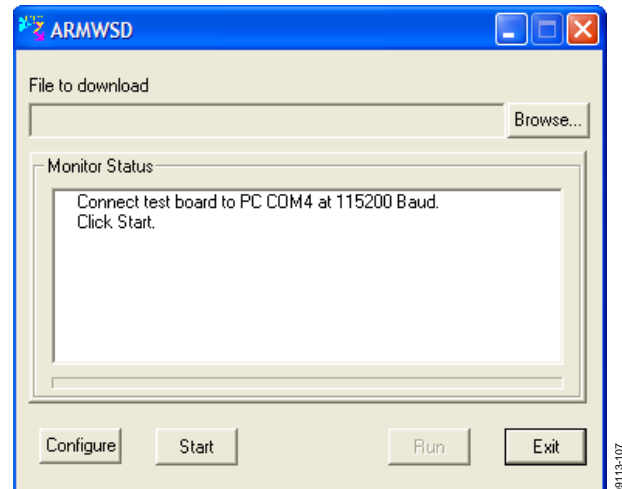
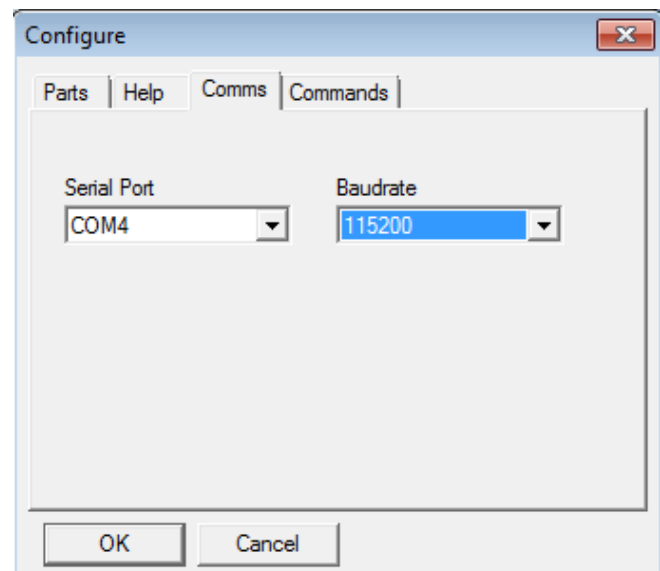

Figure 7. ISEB ARMWSD Firmware Downloader
Figure 8. Selecting the Correct COM Port for the Downloader
2. Run the **ARMWSD.exe** program (it can be downloaded from the ftp://ftp.analog.com/pub/iMEMS_Sensor_Eval/ in the folder of EVAL-ADXL346-M); it displays information about the downloader, as shown in Figure 7.
4. Click **Configure** to display the box shown in Figure 8.
The downloader file should be configured for the **ADuC7026** microcontroller on the ISEB. This can be selected in the **Parts** tab. The other option you may need to change is the COM port. You can select the correct port from the **Serial Port** menu on the **Comms** tab (see Figure 8). If you cannot download the .hex file correctly, please try to make the **Baudrate** lower and retry. "Program" and "Verify" and suggested to check at the same time in **Commands** tab.
When the COM port is selected, click **OK** to accept the changes and go back to the ARMWSD box (shown in Figure 7).
1. Click **Start** in the ARMWSD box (see Figure 7) to initiate the flashing process. After clicking **Start**, click the two buttons (shown in Figure 9) on the ISEB in the following order to flash the firmware:
2. If the downloading process fails, which is indicated in the **Monitor Status** box (see Figure 7), attempt the download again by clicking **Start** and then pressing the appropriate switch combination. It may take a few attempts to reprogram the board successfully. You can also try to lower the download Baudrate as shown in Figure 8 to increase the success rate.
3. After the download has completed successfully, click **Run** (as shown in Figure 7) to reset the ISEB and to begin running the new firmware. When this step is complete, the board is updated correctly.